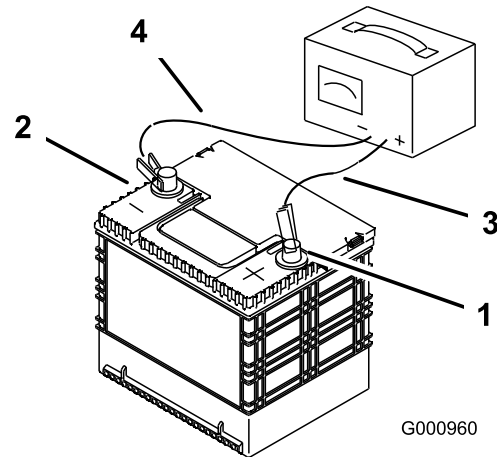

Figure 48
2. When the battery is fully charged, unplug the charger from the electrical outlet, then disconnect the charger leads from the battery posts (Figure 48).